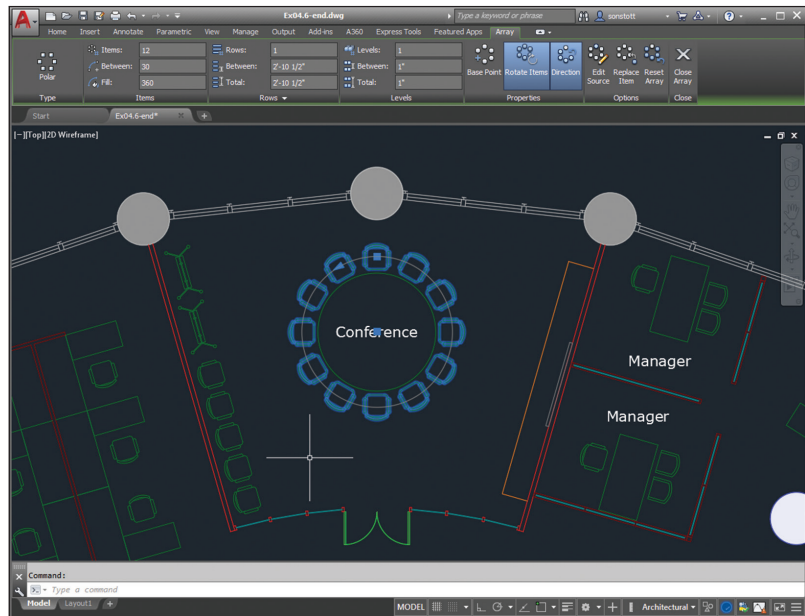

FIGURE 4.20 Creating a polar array
5. Type `12` in the Items text box on the ribbon and press Tab. Toggle on Associative, Rotate Items, and Direction if they are not already on in the Properties panel (see Figure 4.20). Click Close Array.